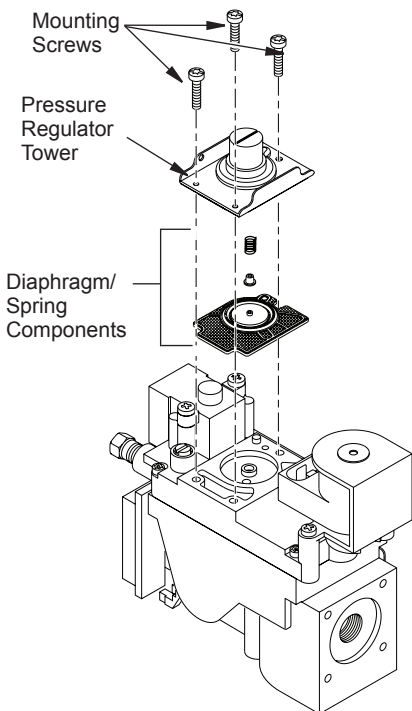

Figure 5 - Removing Mounting Screws, Pressure Regulator Tower, and Diaphragm/Spring Components
1. Using a TORX T20 or slotted screwdriver, remove and discard three mounting screws, pressure regulator tower, and diaphragm/spring components (see Figure 5).